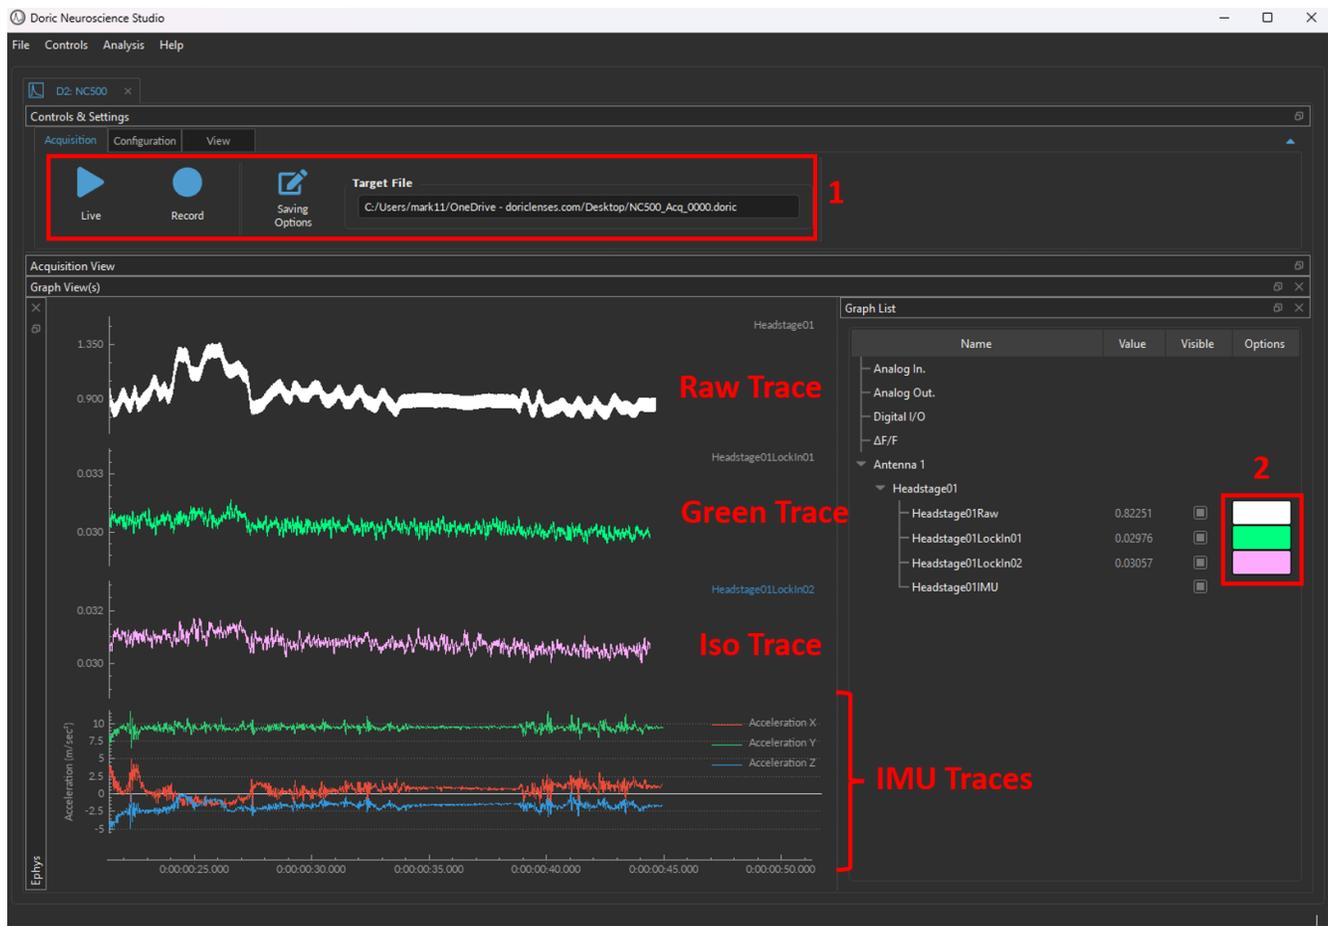

Figure 2.12: Acquisition Window
For real-time signal monitoring, use the **Live** option. To record data, click the **Record** button. Before saving, you can specify the destination folder and file index using the **Saving Options** button (Figure 2.12, 1).
1. **Signal Colors:** Each signal is initially displayed using a randomly assigned color. To make the visualization more intuitive, you can change the color of any channel. Simply click on the color box next to the desired channel, choose a new color (e.g., green, pink), and save the changes (Figure 2.12, 2).
Note: The signal in Figure 2.12 is recorded in ambient light, it might not be a good example of actual recording in mice.